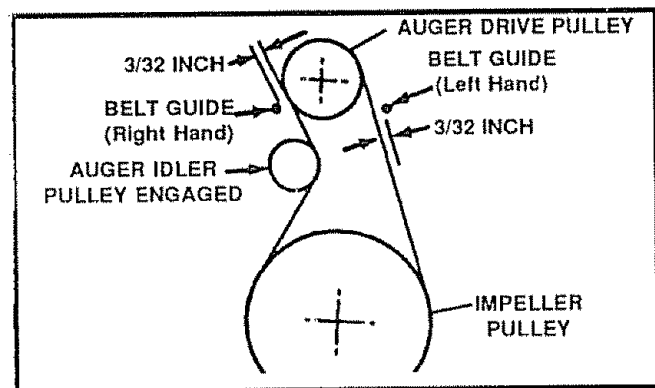

FIG. 29
- ▶ Measure the distance between the belt guides and the belt (See Fig. 29). The distance should be  $3/32$ " for each guide.